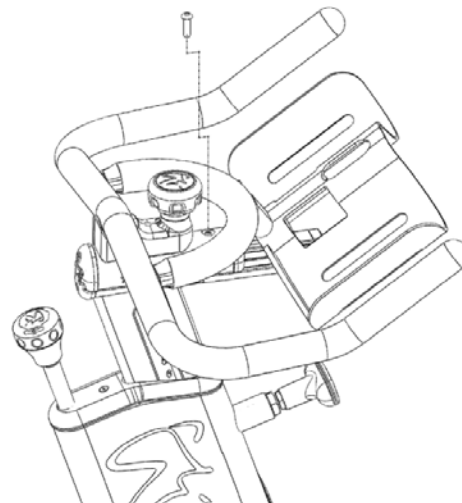

Fig. 21
21. Reinstall the stop bolt onto the handle bar slider (Fig. 21) using a 4mm hex key.